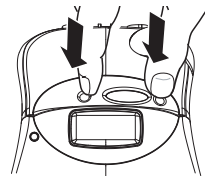

Figure 3
- 1 Press and release the label cassette cover to open the label compartment. See Figure 3.